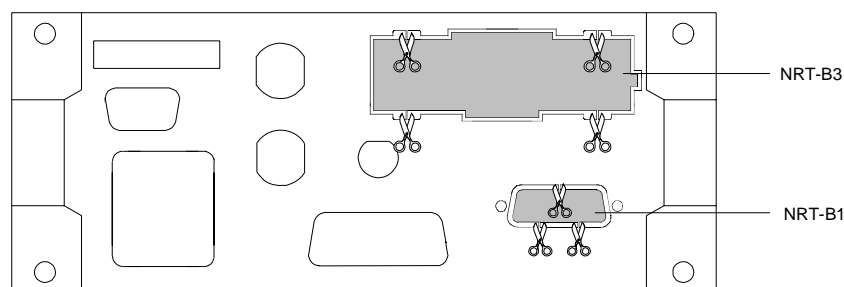

Fig. 4-4 Removing the cover plates for options NRT-B1 and NRT-B3
- Cut out cover plate on rear panel using small side-cutting pliers (see Fig. 4-4).
- Cut out the cover plate on the rear panel using small side-cutting pliers. Make sure that the four bars are not protruding (see Fig. 4-4).